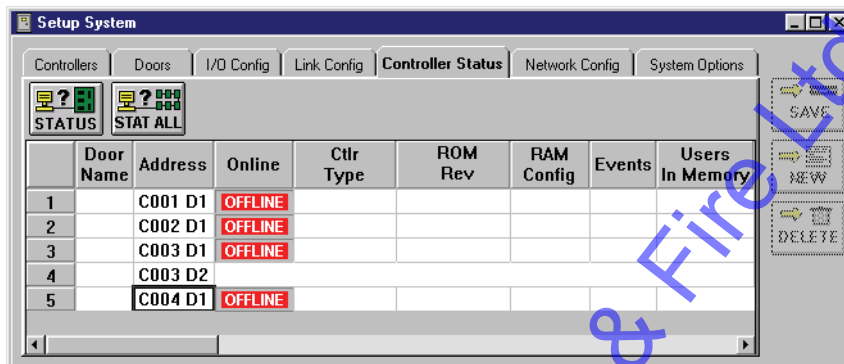

Figure 2-49: Selecting a Controller
2. Click on the **Controller Status** tab. The Controller Status window appears (see Figure 2-49).
3. Scroll up and down the list of controllers and locate the controller for which status is needed. Click in the **Address** cell for that controller (see Figure 2-49).